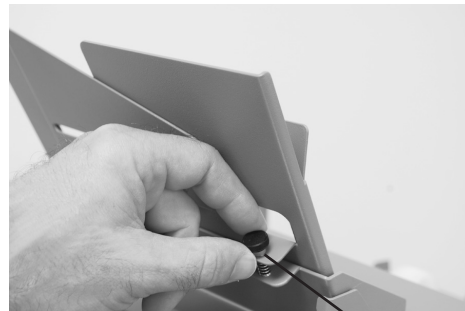

Fig 9c
4. If the fold is skewed, turn the skew adjustment knob located on the back of the feeder left or right to make corrections (Fig 9c).